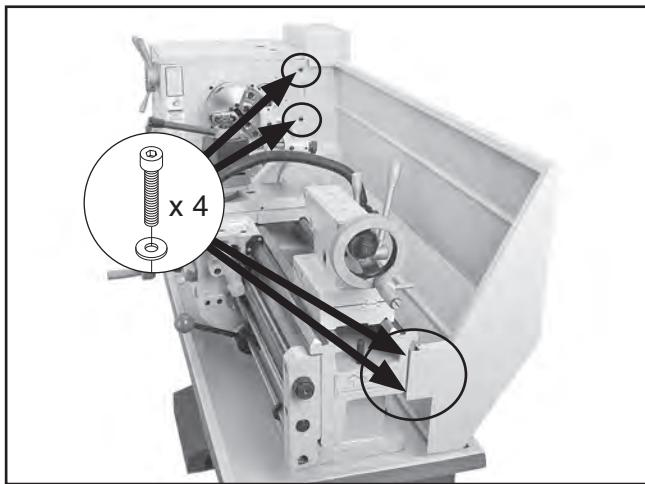

Figure 19. Locations to secure backsplash.
20. Install backsplash with (4) M6-1 x 10 cap screws and (4) 6mm flat washers, as shown in **Figure 19**.